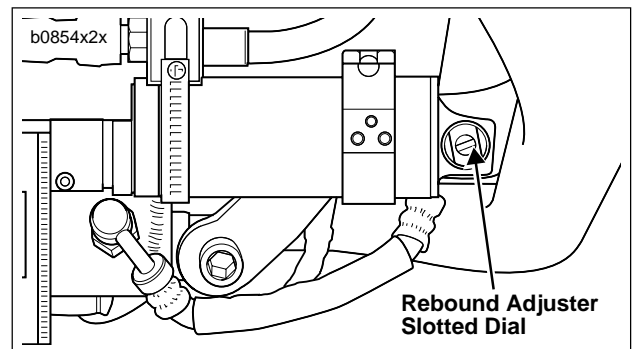

Figure 1-34. Rear Shock Rebound Damping
- See Figure 1-34. Adjust rebound damping using the slotted dial on the remote reservoir at the front of the shock. Factory setting = maximum damping minus 1 turn.
See Figure 1-34. Adjust compression damping using the slotted dial on the shaft at the end of the shock. Factory setting = maximum damping minus 2.5 turns.